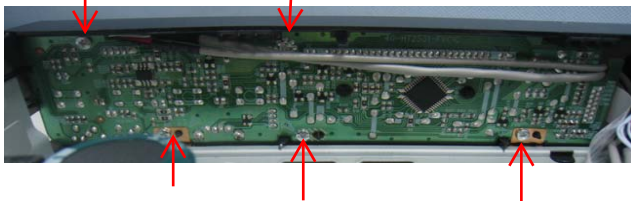

Figure 4
Step4 : Dismantle Front Control Board,remove 5 screws (Figure 4 /5)